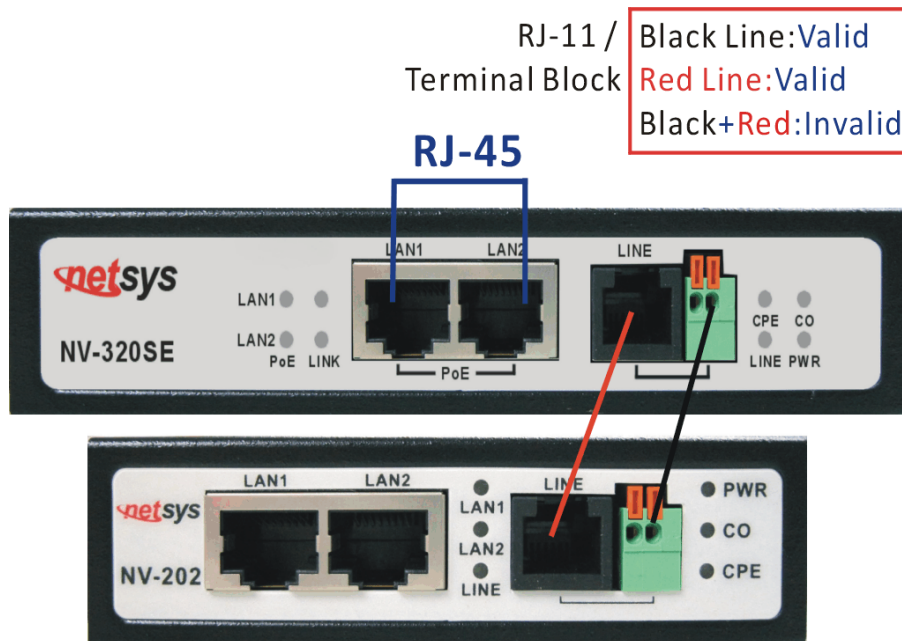
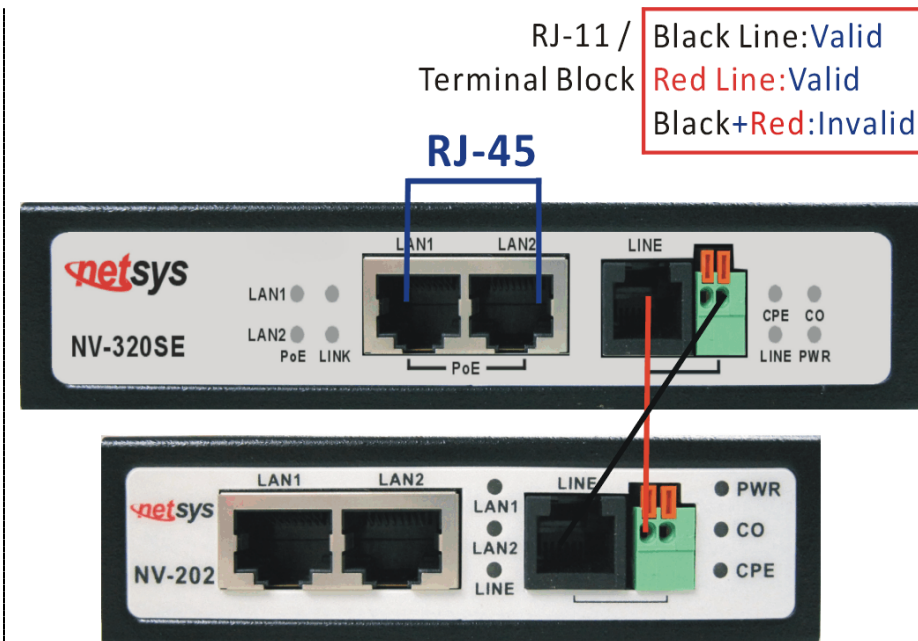

Figure 2.4 NV-320SE line ports straight connection
Figure 2.5 NV-320SE line ports crossover connection
- ◆ Line port supports RJ11 or Terminal block combo port: It is used to connect from NV-202/NV-500/NV-320SE (CO side) to NV-202/NV-500/NV-320SE (CPE side) over single pair phone cable. Take note that the NV-320SE line port cannot be used at the same time. Either RJ-11 port is connected or terminal block is connected using straight connection (Figure 2.4) or cross-over connection (Figure 2.5)